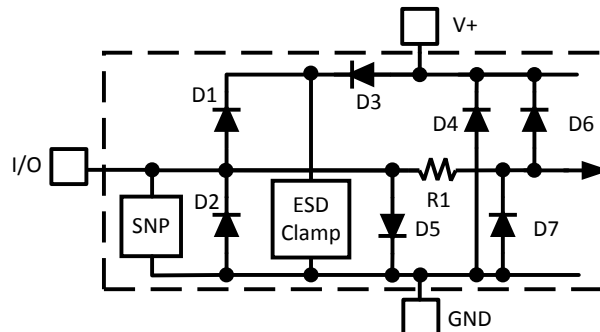

Figure 4. ESD Protection Input Structure
- (1) Absolute Maximum Ratings indicate limits beyond which damage to the device may occur. Operating Ratings indicate conditions for which the device is functional, but do not ensure performance limits. For ensured specifications and test conditions, see the Electrical Characteristics. The ensured specifications apply only for the test conditions listed. Some performance characteristics may degrade when the device is not operated under the listed test conditions.
- (2) All voltages are measured with respect to GND, unless otherwise noted.
- (3) When the input voltage (V_{IN}) at any pin exceeds the power supplies ($V_{IN} < \text{GND}$ or $V_{IN} > V_{+}$), the current at that pin should be limited to 5 mA. Parasitic components and/or ESD protection circuitry for the LM63's pins are shown in Figure 4 and Table 1. The nominal breakdown voltage of D3 is 6.5 V. Care should be taken not to forward bias the parasitic diode, D1, present on pins D+ and D-. Doing so by more than 50 mV may corrupt temperature measurements. An "X" means it exists in the circuit.
- (4) Thermal resistance junction-to-ambient when attached to a printed circuit board with 2 oz. foil is 168°C/W.
- (5) Human body model, 100 pF discharged through a 1.5 k Ω resistor. Machine model, 200 pF discharged directly into each pin. See Figure 4 and Table 1 for the ESD Protection Input Structure.
- (6) See the URL <http://www.ti.com/packaging> for other recommendations and methods of soldering surface mount devices.